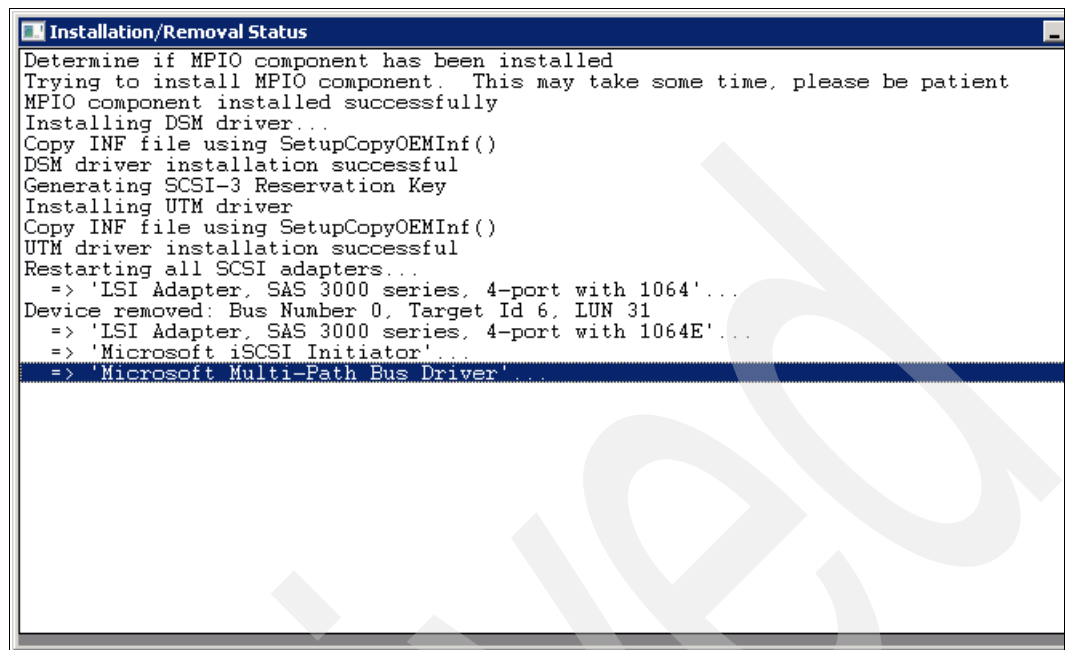

Figure 6-12 Installation status window
12. The installation status window will appear during the installation, as shown in Figure 6-12.